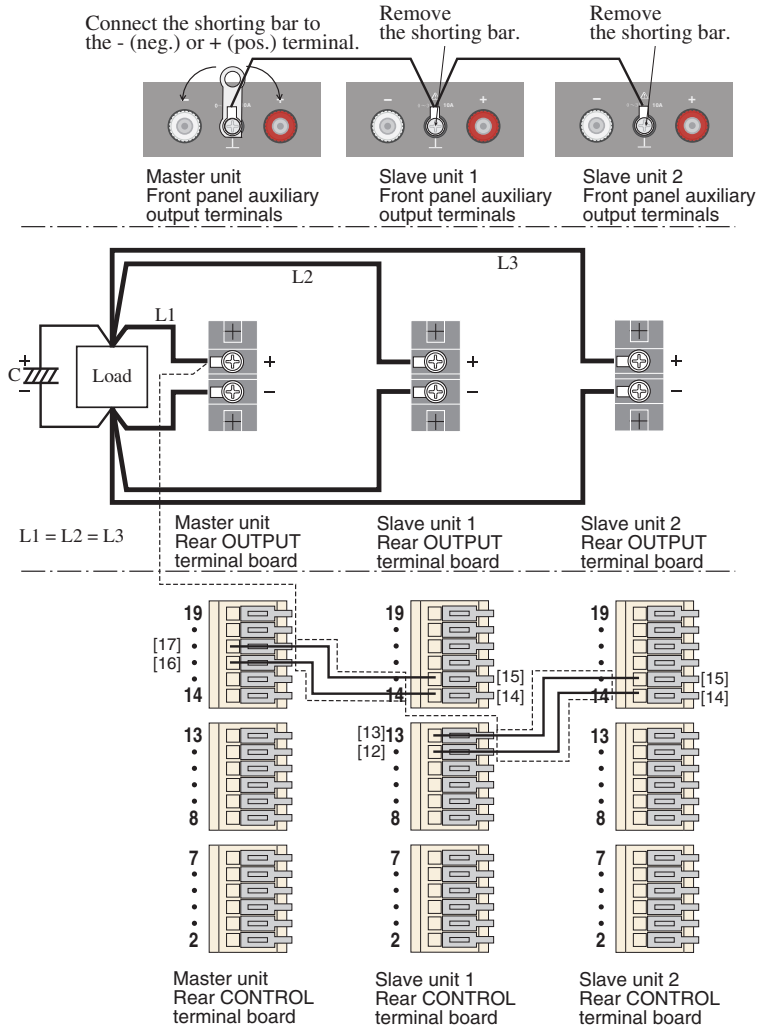

Fig.4-18 Connection for master-slave-control parallel operation
6. Connect the master unit and slave unit as shown in Fig.4-18.
Fig.4-18 shows an example of how the rear output terminals are connected in parallel for two slave units